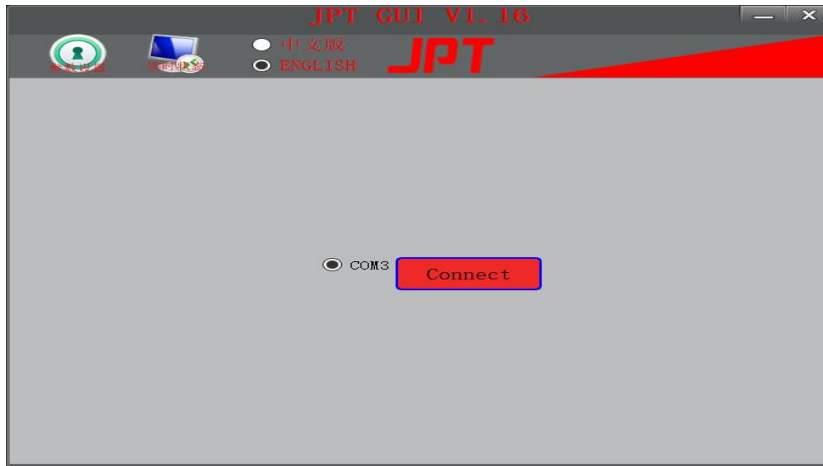

Figure 7
- 1) Activate JPT.exe program, the interface will display as Figure 7